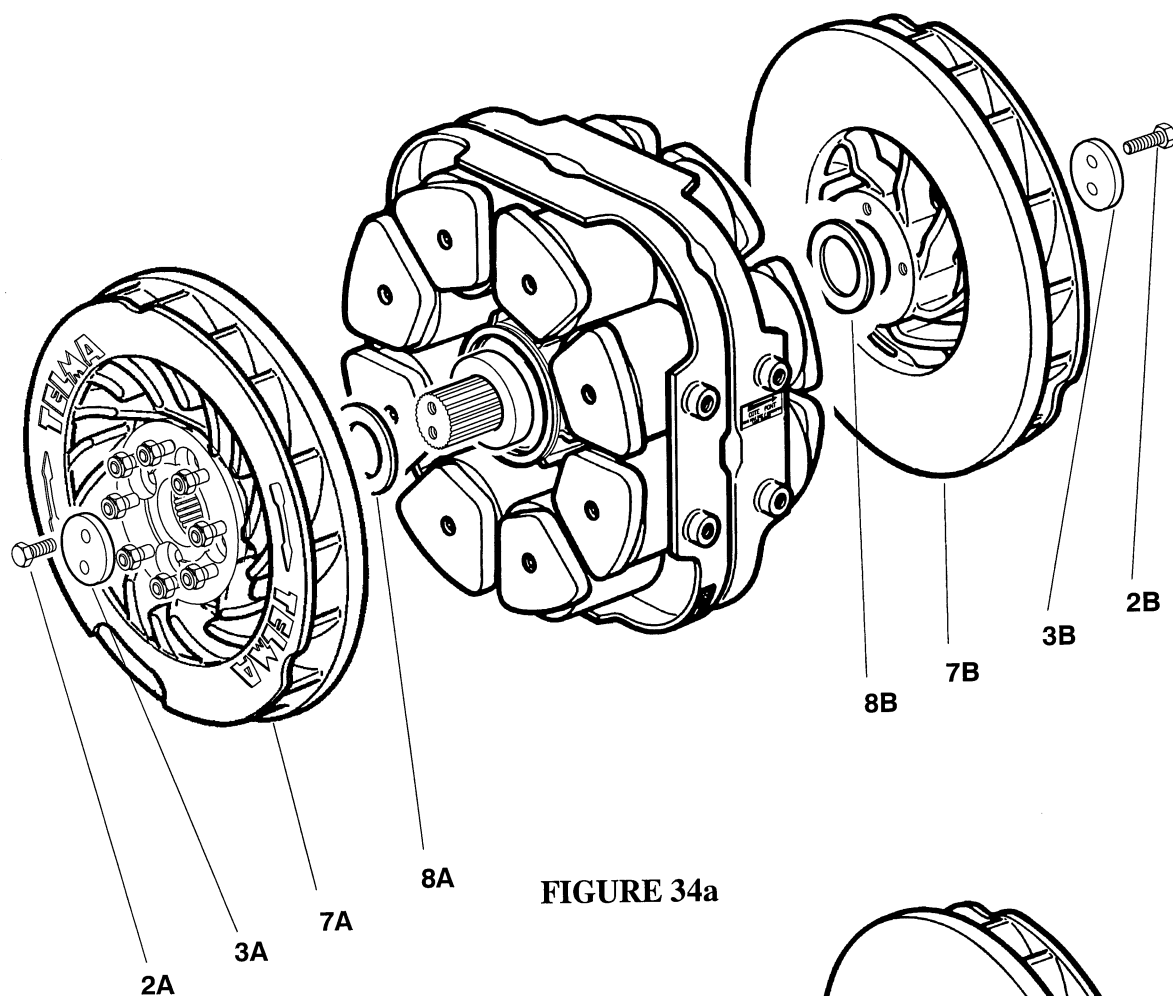

FIGURE 34a
- 1 – REMOVAL OF THE ROTORS** – Figure 34a : standard version